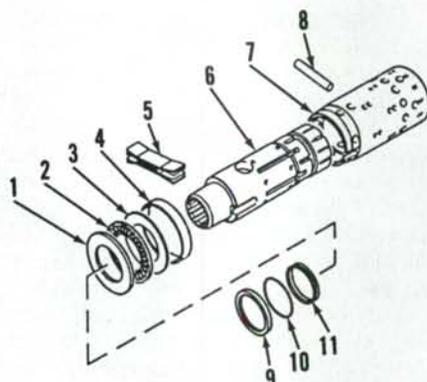
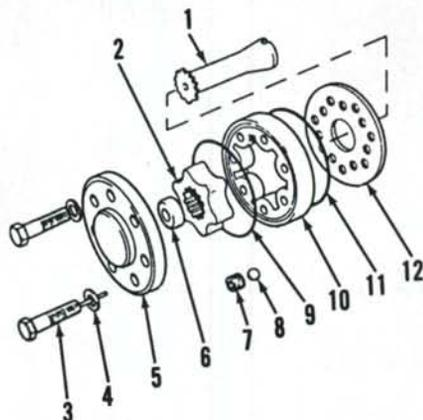

Fig. 53—Exploded view of steering valve spool, sleeve, bearings and seals.
Fig. 52—Exploded view of steering valve rotor set, drive shaft and related parts.
taining end cap (5—Fig. 52). Separate end cap, stator (10), rotor (2), spacer (6), valve plate (12) and drive shaft (1) from valve body. Remove bushing (7) and check ball (8). Remove spool (6—Fig. 53) and sleeve (7) assembly, thrust bearing assembly, "O" ring (10) and backup ring (11) and oil seal (9) from body. Remove pin (8), retaining ring (4) and centering springs (5) from sleeve. Separate spool from sleeve.
Install centering spring retainer ring (4—Fig. 53) and pin (8). Install chamfered washer (3) onto spool with chamfered face towards sleeve. Install thrust bearing (2) and washer (1) onto spool.
Install check ball (8—Fig. 52) and bushing (7) in body. Install drive shaft
Install spacer (6—Fig. 52) in rotor. Install end cap (5) and retaining bolts using new seal washers (4). Make certain bolt with pin (3) is installed in hole over check ball (8). Tighten bolts to 27 N·m (20 ft.-lbs.) torque.